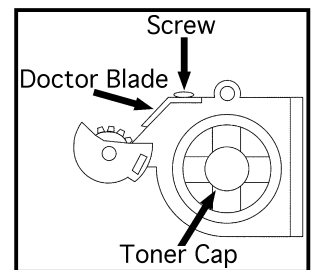

Figure 3
4. Remove toner cap and doctor blade (2 screws) (Fig. 3). Use compressed air or a vacuum to clean out the toner hopper. Replace the doctor blade.